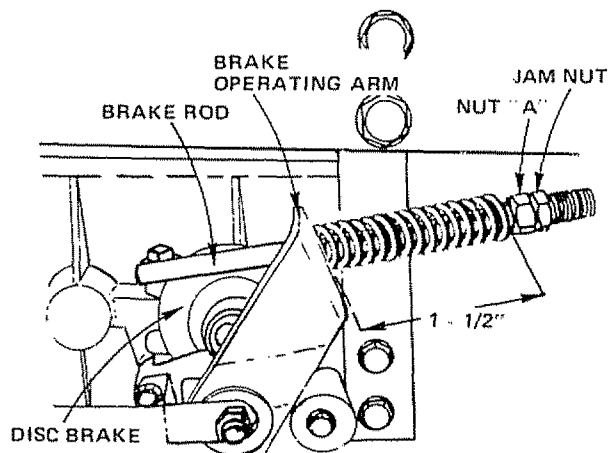

FIGURE 43
This tractor is equipped with an adjustable brake system mounted on the right side of the transaxle (Fig. 43).
- If distance is other than 1 - 1/2", loosen Jam Nut (Fig. 43) and turn Nut "A" until distance becomes 1 - 1/2". Retighten Jam Nut against Nut "A".